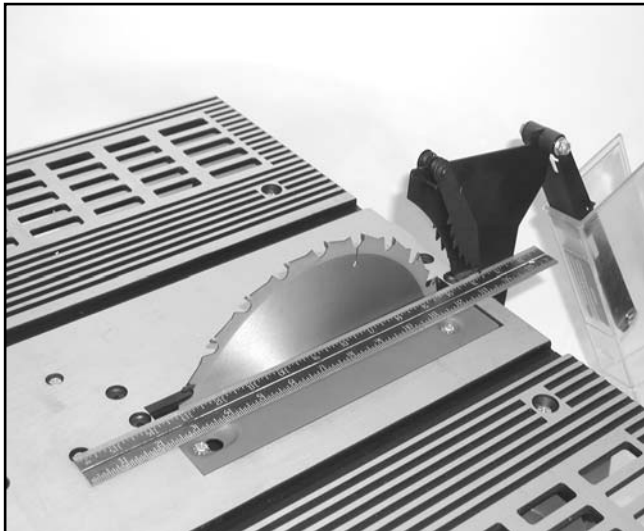

Figure 12. Aligning the splitter with the blade.
6. Using the 3/4" long hex head bolts, attach the splitter/blade guard assembly to the splitter bracket. Fasten the assembly with the nuts and 1/4" lockwashers provided. See **Figure 12**.
7. Using a straightedge as a guide, align the splitter with the saw blade. See **Figure 12**. Use care to ensure that alignment is exact. Failure to do so will result in difficulties when ripping or crosscutting.